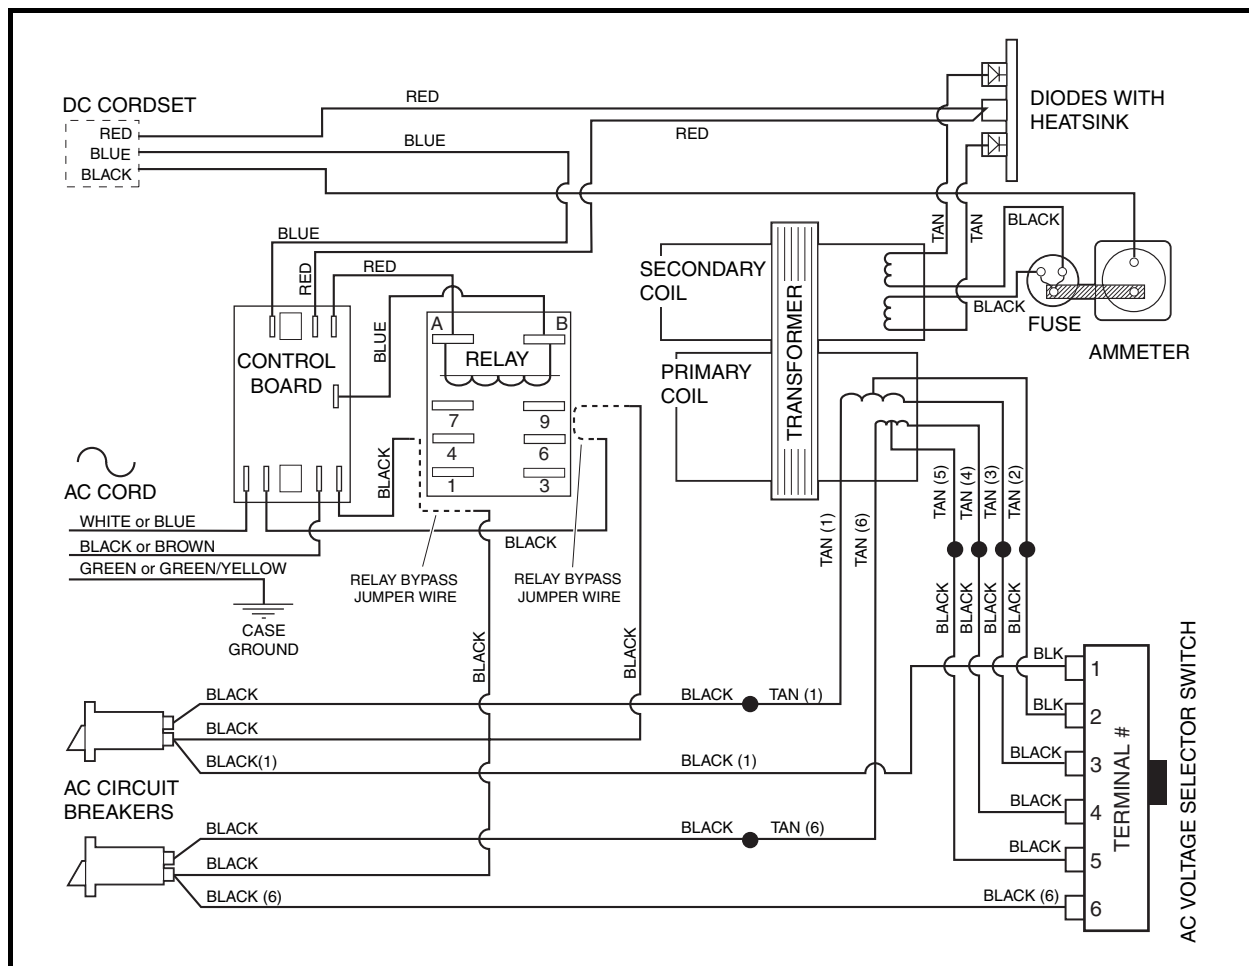

Figure 4-27 PowerDrive Onboard Charger Wiring Diagram (Relay Bypassed)
- 4.1. To bypass the relay, locate the black wire that goes from the circuit breaker to terminal 9 on the relay. Disconnect the black wire from the relay terminal (**Figure 4-27, Page 4-34**).
- 4.3. Use a jumper wire with alligator clips to connect the black wire from relay terminal 9 to the black wire from relay terminal 6 (**Figure 4-27, Page 4-34**).
- 4.6. Use a jumper wire with alligator clips to connect the black wire from relay terminal 7 to the black wire from relay terminal 4 (**Figure 4-27, Page 4-34**). **See following DANGER.**
9. Disconnect the jumper wires from the relay wires and connect each wire to the original terminal on the relay (**Figure 4-27, Page 4-34**). **See following WARNING.**